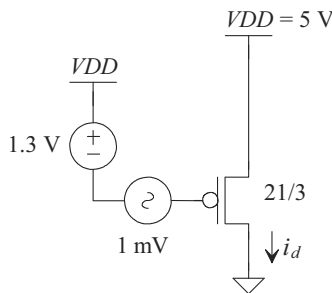

Figure 9.44 Schematic for Problem 9.13.
- 9.13** Estimate the AC, i_d , drain current that flows in the circuit seen in Fig. 9.44. Verify your answer with SPICE in using both transient and AC simulations.